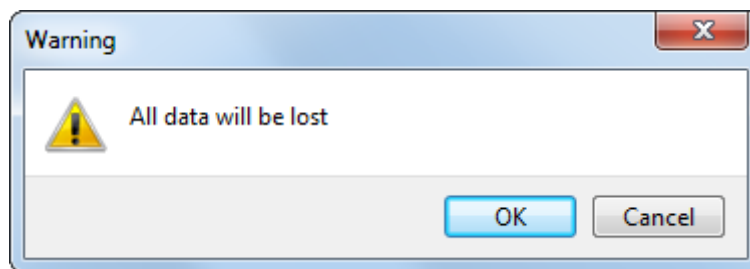

Fig. 20 Finishing upload.
- Select: **OK** to start uploading of the update (Fig. 20).